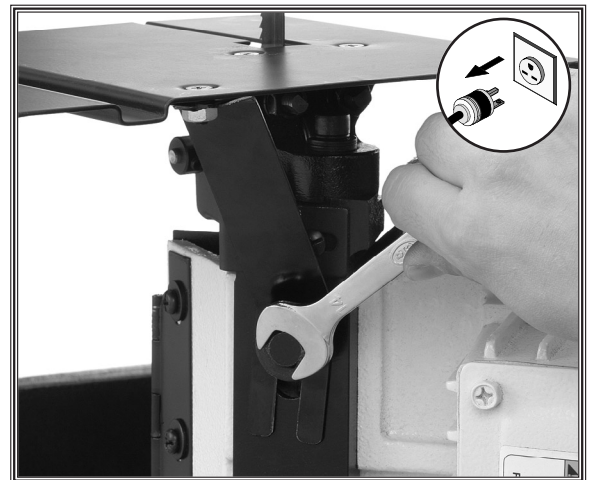

Figure 25. Installing the table support.
5. Use a 14 mm wrench to loosen the blade guide lock bolt and install the table support as shown in **Figure 25**.